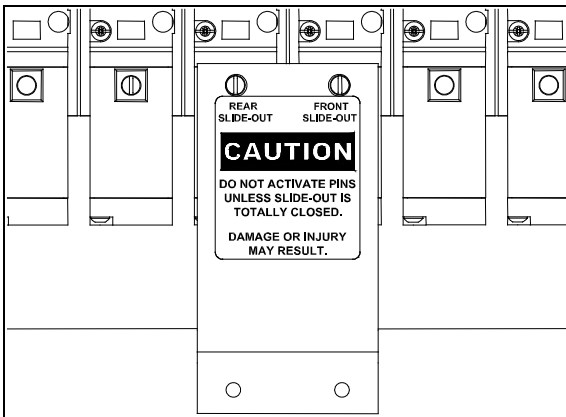
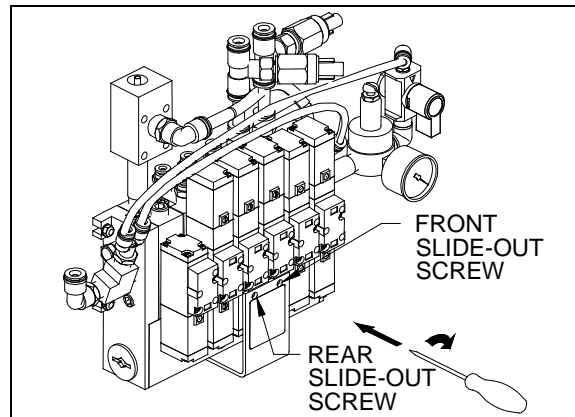

FIGURE 18 : LOCKING PIN VALVE PROTECTION PLATE
FIGURE 19 : LOCKING PIN VALVE LOCATION
A) Identify the proper pneumatic valve controlling the locking pins of the problem slide-out in the control compartment (refer to figure 18 and figure 19).
- B) When the proper valve has been identified, insert a small screwdriver in the protection plate hole to access the "pin valve manual override screw" (figure 19). Turn the override screw clockwise to actuate the locking pins. During the process, you should hear a hissing sound, as the air flows to the pin cylinders.
- C) When the locking pins have been locked, re-insert a screwdriver in the protection plate hole (figure 19). Turn the override screw counterclockwise and keep it on this position to cancel the manual override actuation.